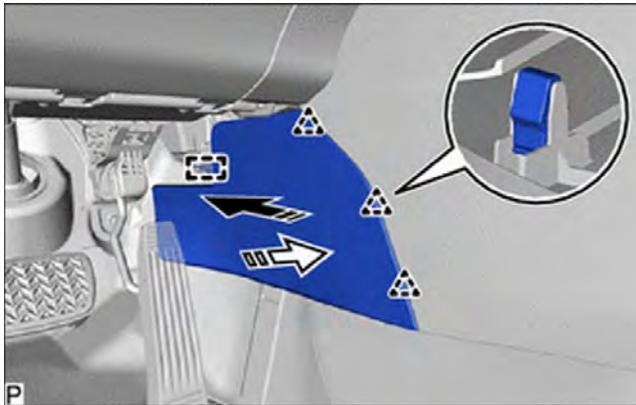

Figure 69
- (a) Engage the guide and 3 clips as shown in the illustration to install the front No. 1 console box insert, as shown in Figure 69.